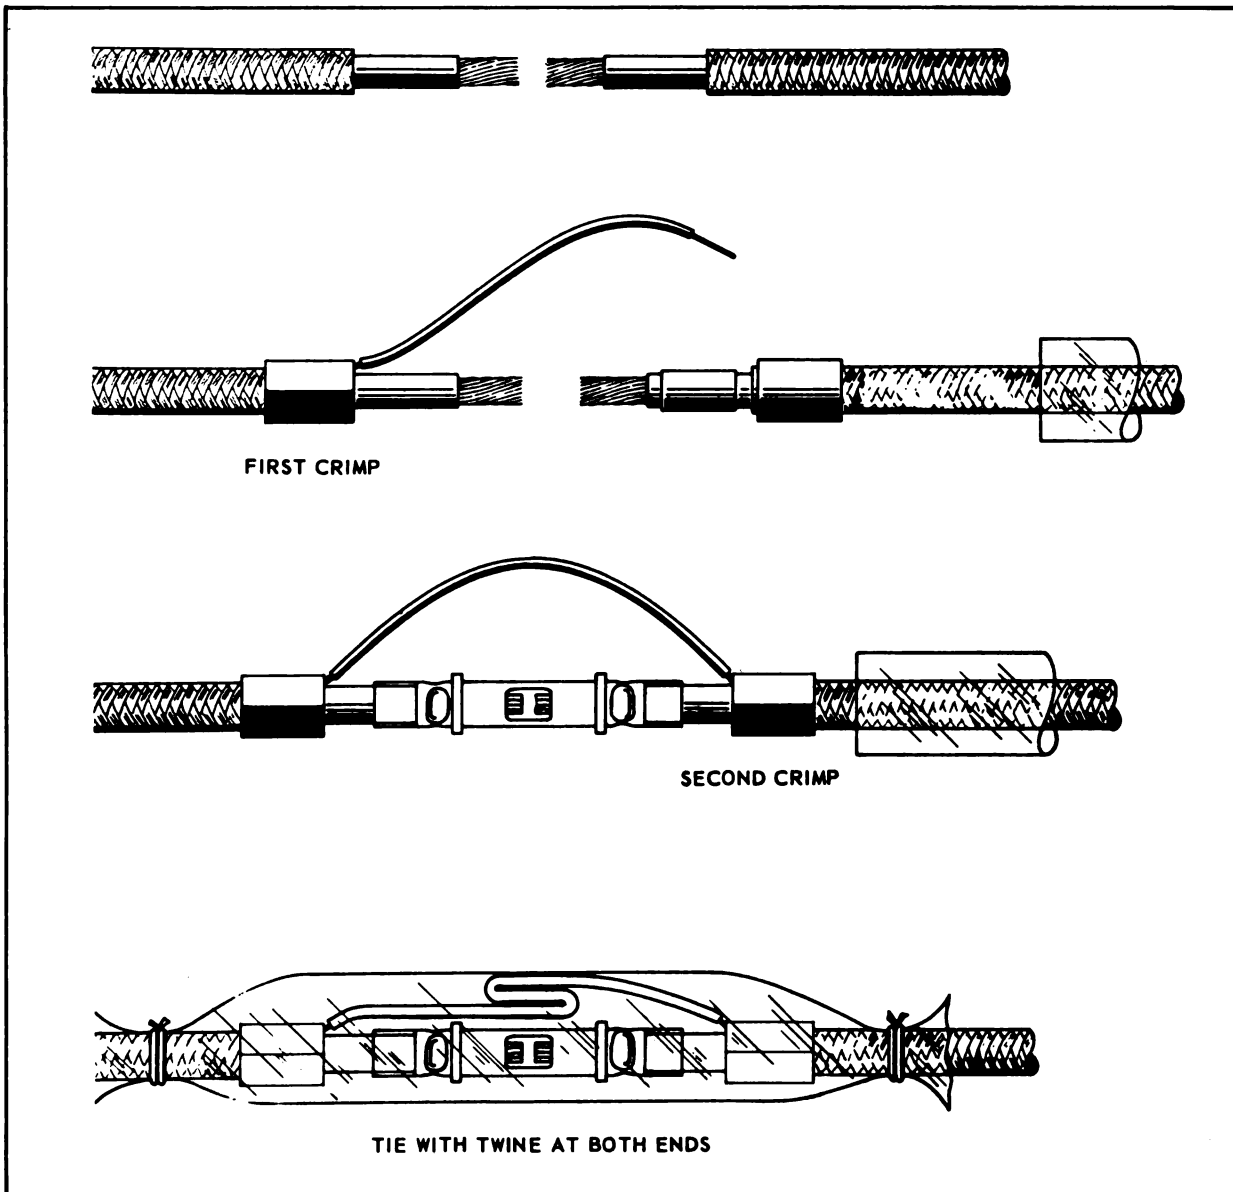

Figure 19-6. Repair of Shielded Wire
19-11. **REPAIRING SHIELDED CABLE.** When shielded cable is severed it can be repaired in the following manner: (See figure 19-6)
c. Slide two insulating sleeves, either shrinkable or flexible transparent tubing, the inner one just large enough to pass over the grounding sheath connector, and the outer one large enough to accommodate the inner insulating sleeve and the grounding lead. The inner insulating sleeve should be just long enough to completely cover the permanent splice. The outer sleeve must be long enough to extend beyond the two grounding sheath connectors as shown in figure 19-6.
g. Slide inner insulating sleeve into position as shown in figure 19-6. If shrinkable tubing is used apply heat as described in section XI, paragraph 11-22.